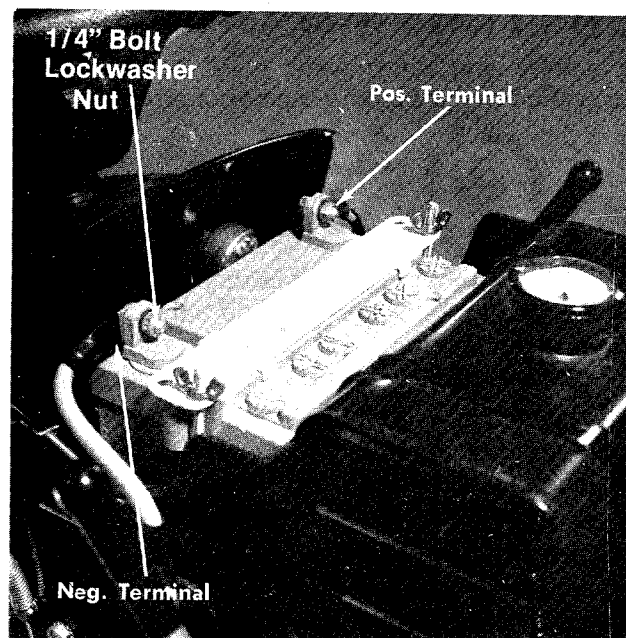

FIGURE 5
- Step 6. Attach the positive cable (from the starter solenoid) and the small wire (from the ammeter) to the positive battery terminal with the 1/4" bolt, lockwasher and nut in the assembly pack. (See figure 5.)